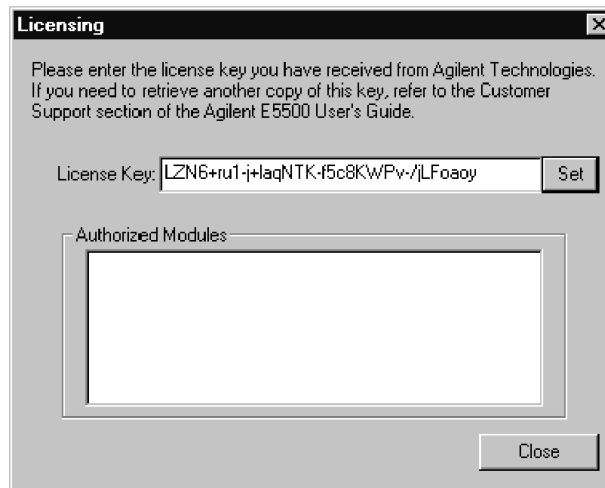

Figure 1-31 Copy Keyword into License Key Field
- c Highlight the keyword in the License_key.txt file and copy it to the dialog box as shown in Figure 1-31, then click the **Set** button.